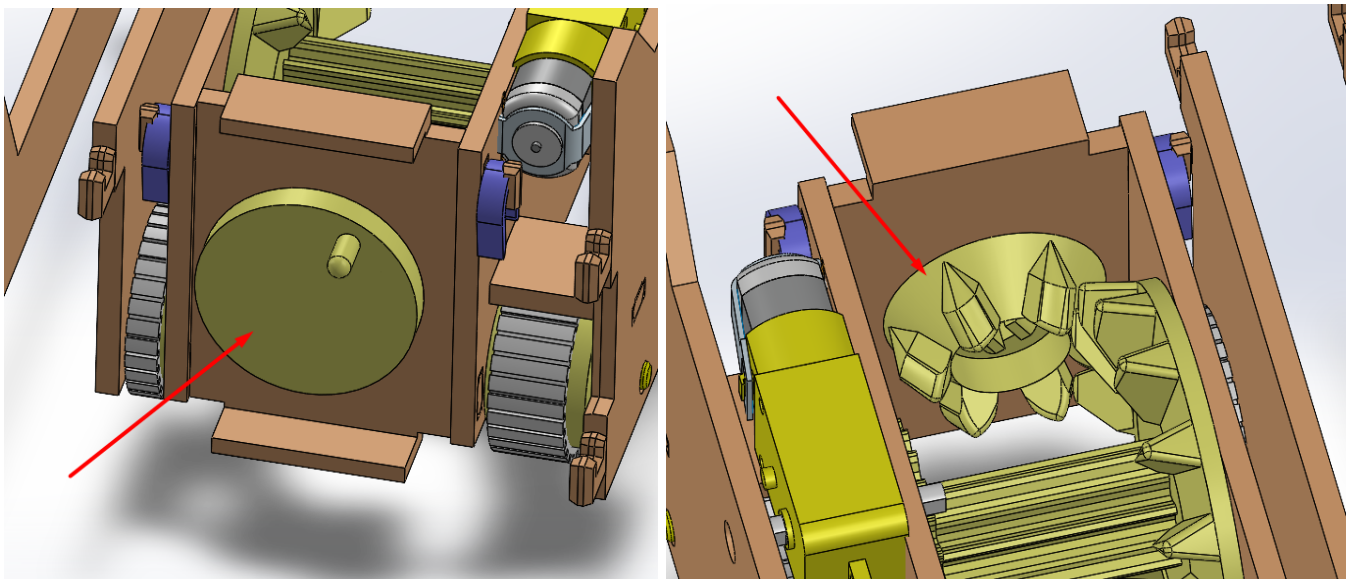
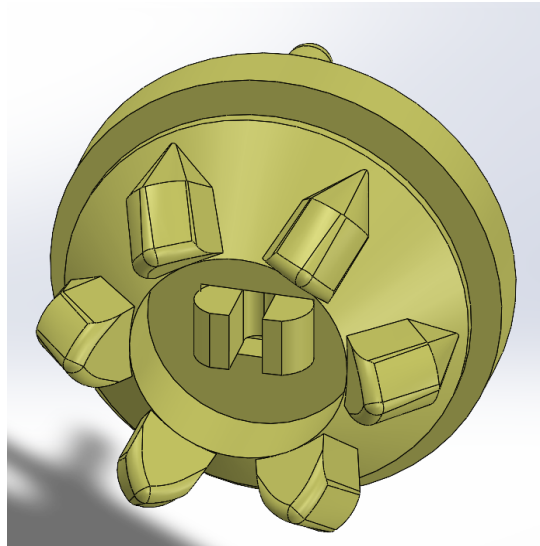

FIGURE 11
FIGURE 12
STEP 9: In this step we finally take the two parts numbered 8 and 9, we put them through the circle hole in the part numbered 4 which is already part of the robot, as seen in figure 11, we slide the bevel geared part numbered 8 on the inside, and the plate with the thin finger (number 9) on the outside (careful of snapping the thin finger on it) and we attempt to snap them into each other through the circle hole as seen in figure 11, a clearer view of the snapping mechanism is shown in figure 12.